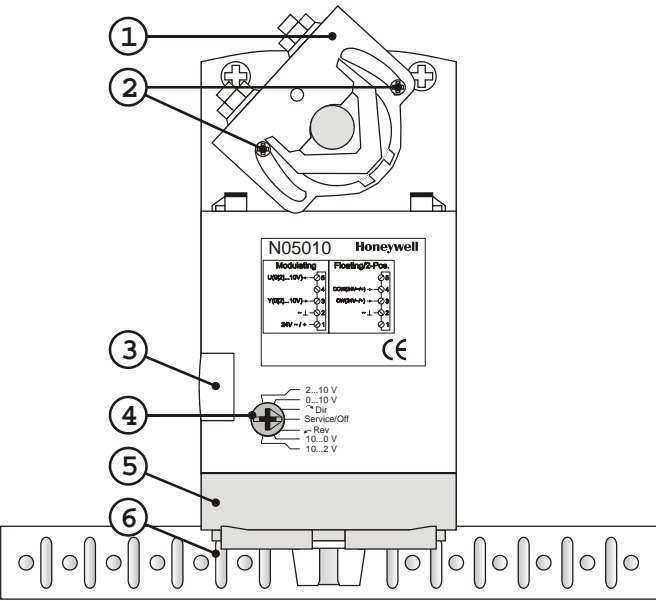

Fig. 2. Setting units and control elements
- Legend for Fig. 2:
The delivery package includes the actuator, parts 1 through 6 (see Fig. 2), plus two cable grommets and a spare cable grommet.